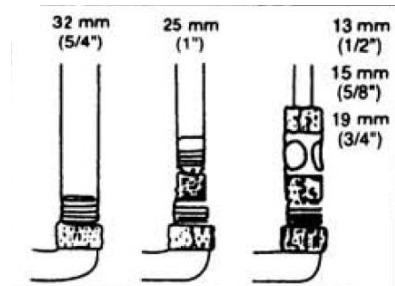

Fig. 3
2. Wedge the discharge hose on to the connection section corresponding to the internal diameter of the hose (Fig.3).
N.B.: For large diameter hoses and to obtain the optimum discharge output, it will be necessary to cut the end of the universal fitting (7) so as to only keep the section suitable for the hose used.